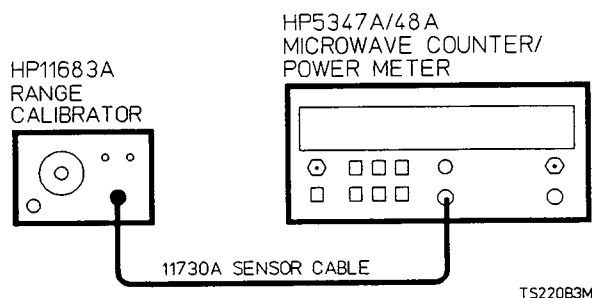

Figure 5-8. Ranges 4 and 5 Shaper Adjustment Setup
1. Connect Range Calibrator output to the power **INPUT** connector of the HP 5347A /48A as shown in Figure 5-8.